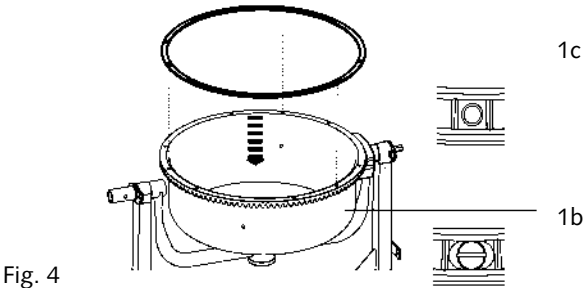

Fig. 4
- Align the holes and bolts and place the rubber gasket (1c) onto the lower drum (1b) (Fig. 4).